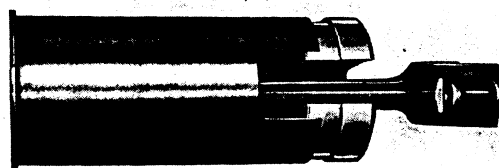

FIG. 146.
2. Lift out liners, if necessary using soft metal drift FT.85, Fig. 146, which is designed to suit the liner base.